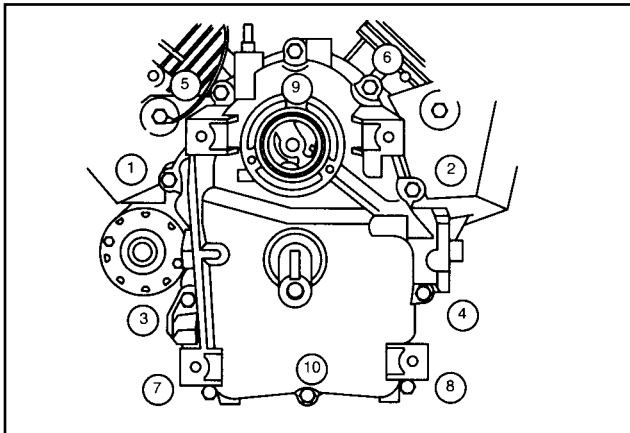

Fig. 15 - Install Sump
2. Install sump with new gasket, Fig. 15. a. Torque screws in sequence shown to 200 in. lbs. (22.6 Nm).